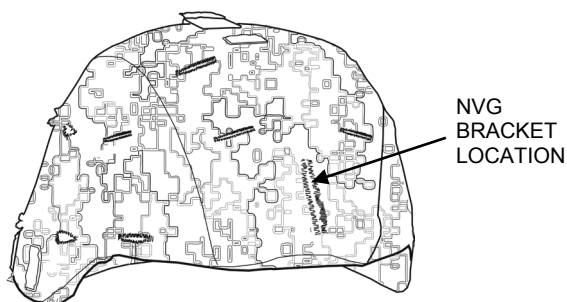

Figure 3. Outside of Helmet Cover.
1. Orient the replacement helmet cover with the NVG bracket location facing the front of the helmet, as shown in Figure 3.